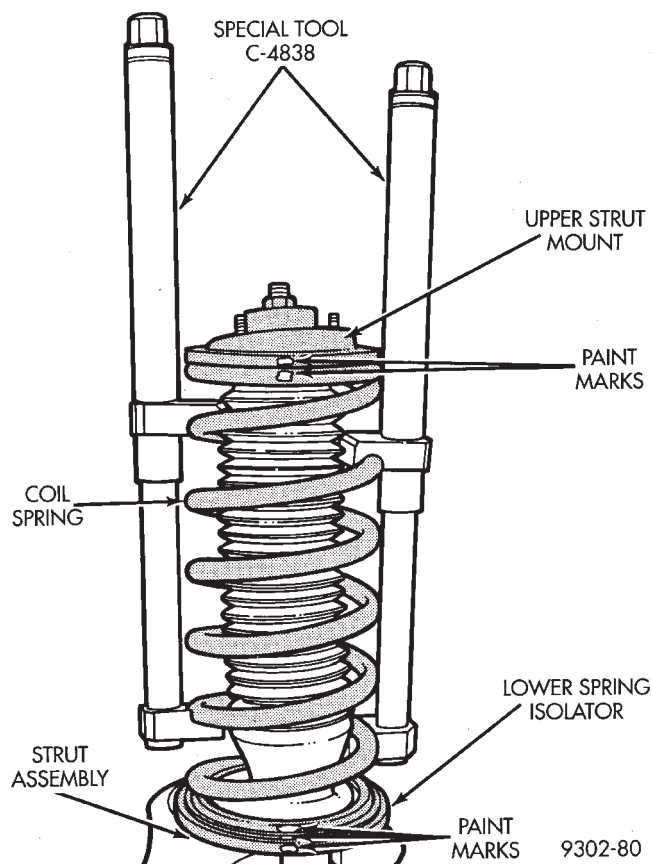

Fig. 1 Compressing Strut Assembly Coil Spring
(1) Remove strut assembly requiring service from the vehicle. Refer to Strut Assembly Removal in Servicing Rear Struts, in this section of the service manual.
(2) Position strut assembly in a vise (Fig. 1). Using paint or equivalent, mark the strut unit, lower spring isolator, spring and upper strut mount for indexing of the parts at assembly.
(3) Position Spring Compressors, Special Tool C-4838 on the strut assembly spring (Fig. 1). Compress coil spring until all load is removed from upper strut mount assembly.